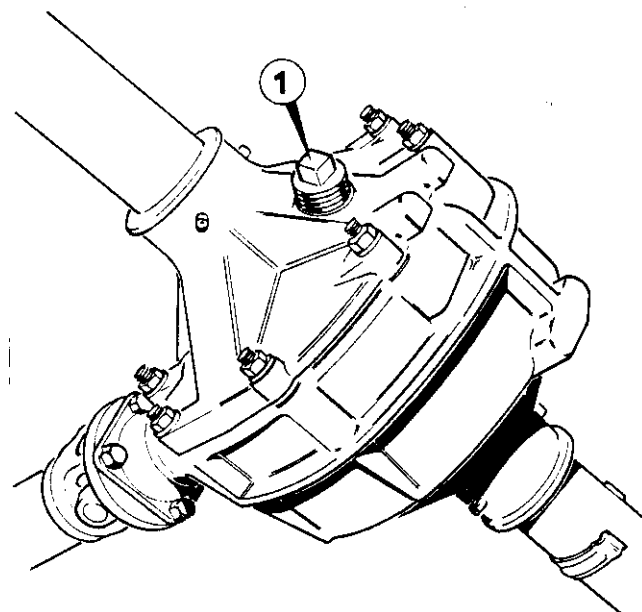

Figure 11 Rear axle oil filler/level plug
2. Wipe clean the level plug and surrounding area and remove plug (figure 11).